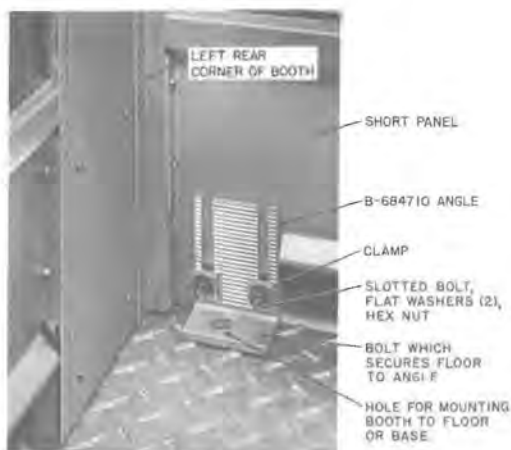

Fig. 11—Anchor Bracket and Leveling Device
- 2.21** Adjustable mounting angles are provided to facilitate booth leveling up to 3 inches (Fig. 11). They are also used for bolting the booth to its mounting surface.
- If a KS-19580, List 28 foundation template is used, remove insert plugs from template and secure anchor brackets (Fig. 11) of booth to template using four 3/8-16 by 1-1/4 hex head
- (1) Mark the location for four mounting holes.
- (2) Drill four lead holes to accommodate 5/16 by 2-1/2 inch lag screws.
- (3) Secure booth to floor using the four 5/16 by 2-1/2 inch lag screws, four 5/16-inch lockwashers, and four 5/16-inch flatwashers.
- (d) Adjust the anchor brackets (Fig. 11) if necessary, and ensure that the booth is level.